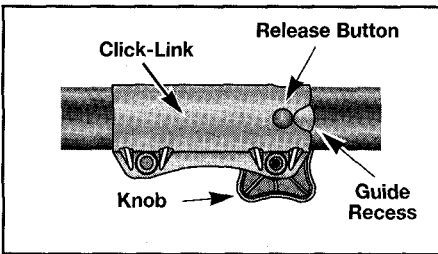

Fig. 13
1. Loosen the knob **counterclockwise** (Fig. 13).
2. Press and hold the release button **in** (Fig. 13).